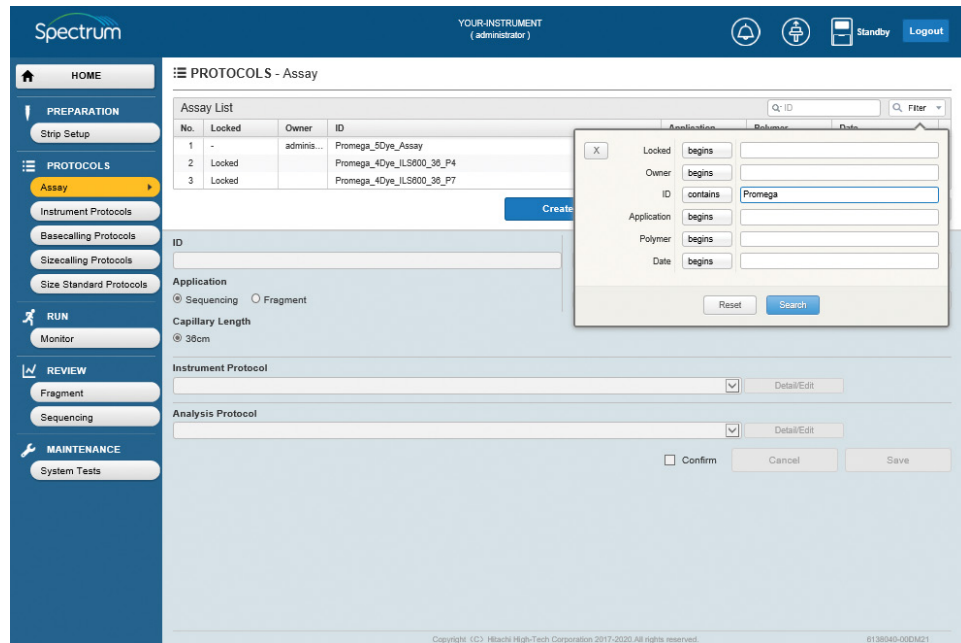

Figure 79. Assay List search filter option selection.
5. After selecting the appropriate filter for the search terms in the field being searched (i.e., Locked, Owner, ID, Application, Polymer or Date), type the desired search term in the adjacent box and select **Search** (Figure 79). Alternatively, select **Reset** to exit.